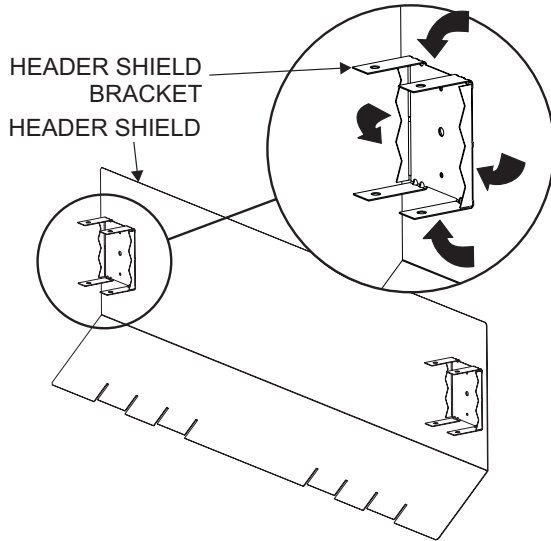

Figure 26
1. Bend the six tabs on each Header Shield Bracket to 90°. **See Figure 26.**